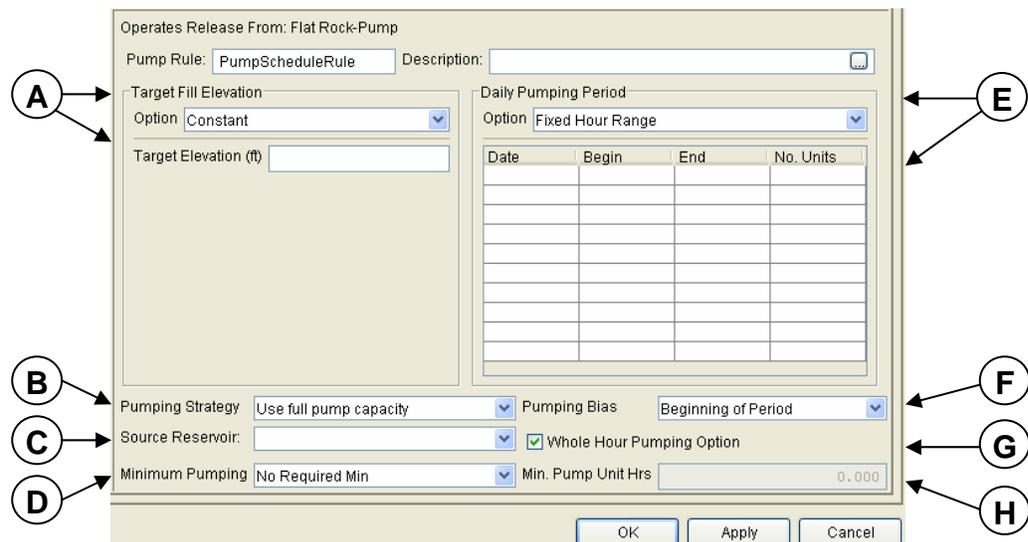

Figure 11.49 Pump Rule Editor
2. Highlight the Pump Schedule rule in the operations tree to access the **Pump Rule** editor (Figure 11.49). The name and description of the rule will appear in the **Pump Rule** and **Description** fields. The content of the editor varies depending on which Options are selected.